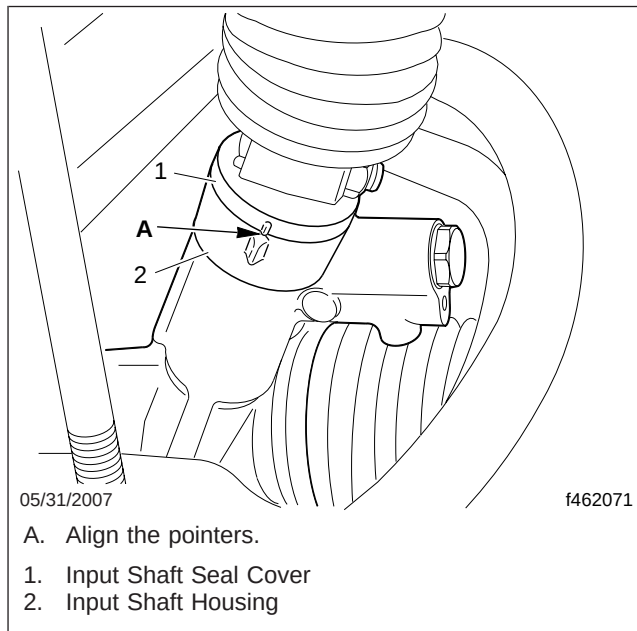

Fig. 1, Rack and Pinion Pointer Alignment
2. With the wheels on turnplates, center the rack travel by aligning the timing pointers on the input shaft seal cover and the input shaft housing. (Fig. 1).